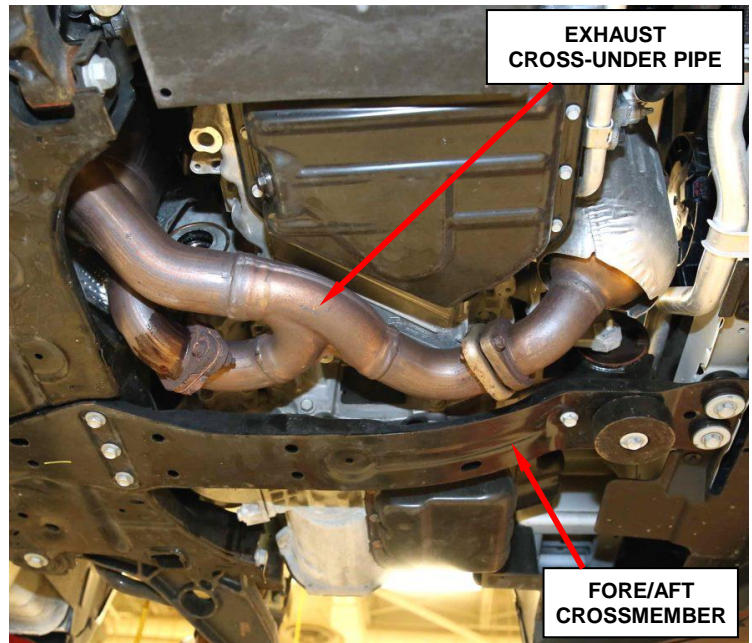

Figure 13 – Fore/Aft Crossmember and Cross-Under Exhaust Pipe
16. Remove and save the fore/aft crossmember (Figure 13).
17. **For vehicles with All Wheel Drive**, remove and save the exhaust cross-under pipe from the vehicle (Figure 13).